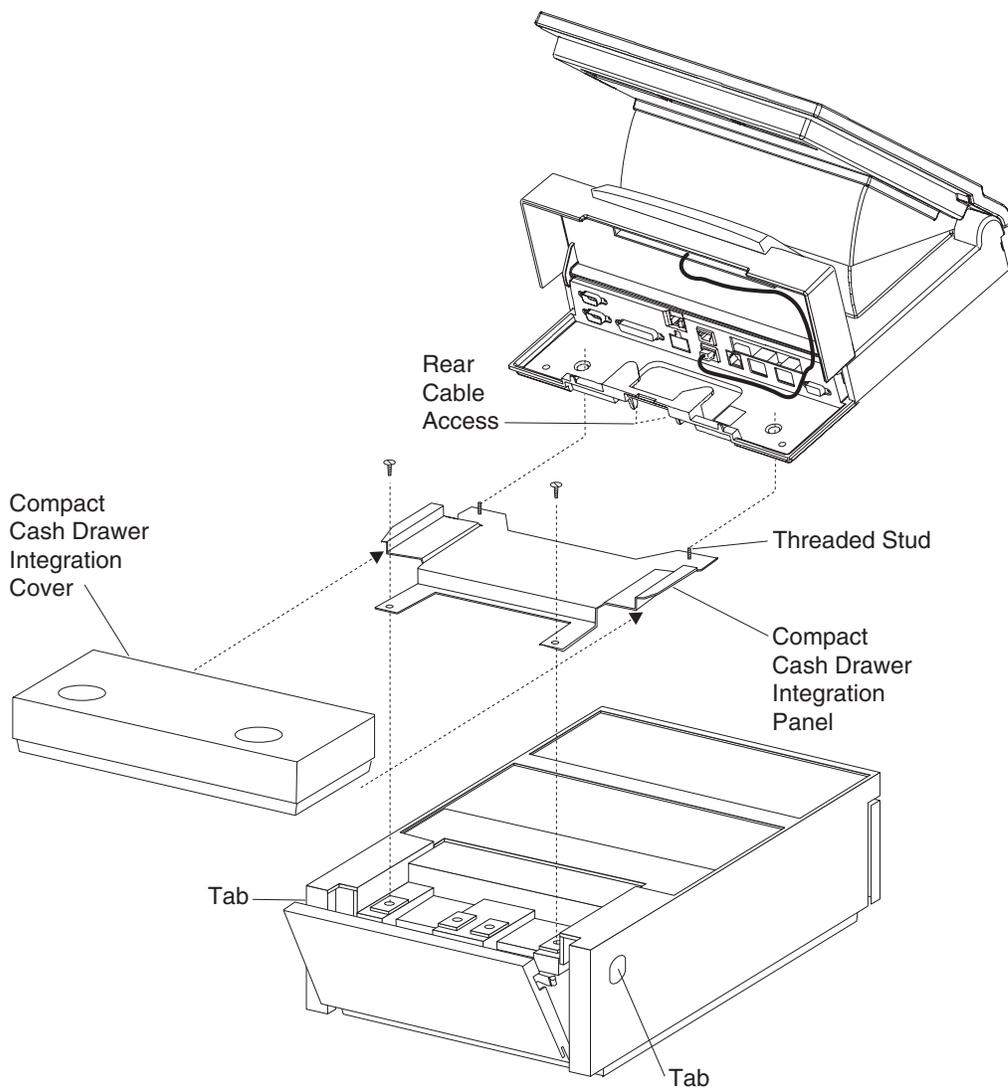

Figure 2-16. Integration Panel Installation
- 1 Open the rear cover on the 4695 by pressing the tabs on both sides of the 4695. See Figure 2-16.